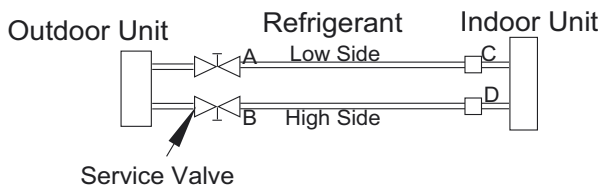

Fig. 9 – Service Valve
1. Completely tighten the flare nuts (A, B, C, D, E). Fully open all circuits service valves. Connect the manifold gage charge hose to the charge port of the low side Master service valve to evacuate all circuits at the same time (see Fig. 9).